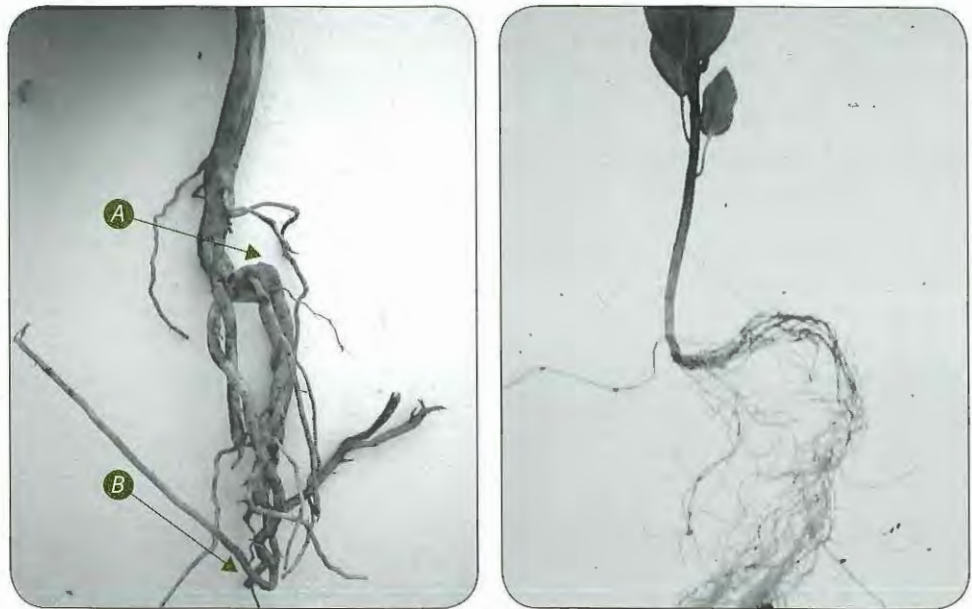

Figure 7.5 A twisted root system due to the root being bent during potting out in the nursery (A) and hitting the bottom of the pot (B)
2. Remove the vine from the pot or bag (see Figure 7.4). Examine the root ball and gently loosen a little of the potting mix around the edge of the root ball. Check the root system for upturned roots at the base of the root ball (see Figure 7.5) and cut off any present just before the upturn. Treat the roots very gently.